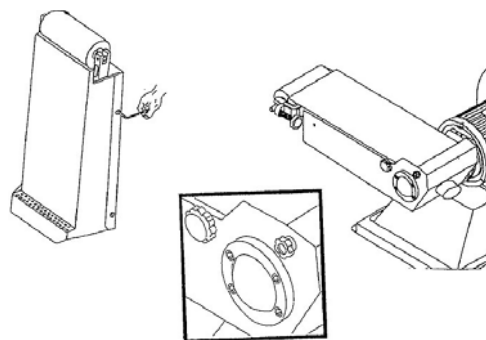

Fig. 8: Mounting of the sanding arm cover
Step 4: Fasten the cover under the grinding arm with the 4 M6x10mm provided screws (fig. 8).